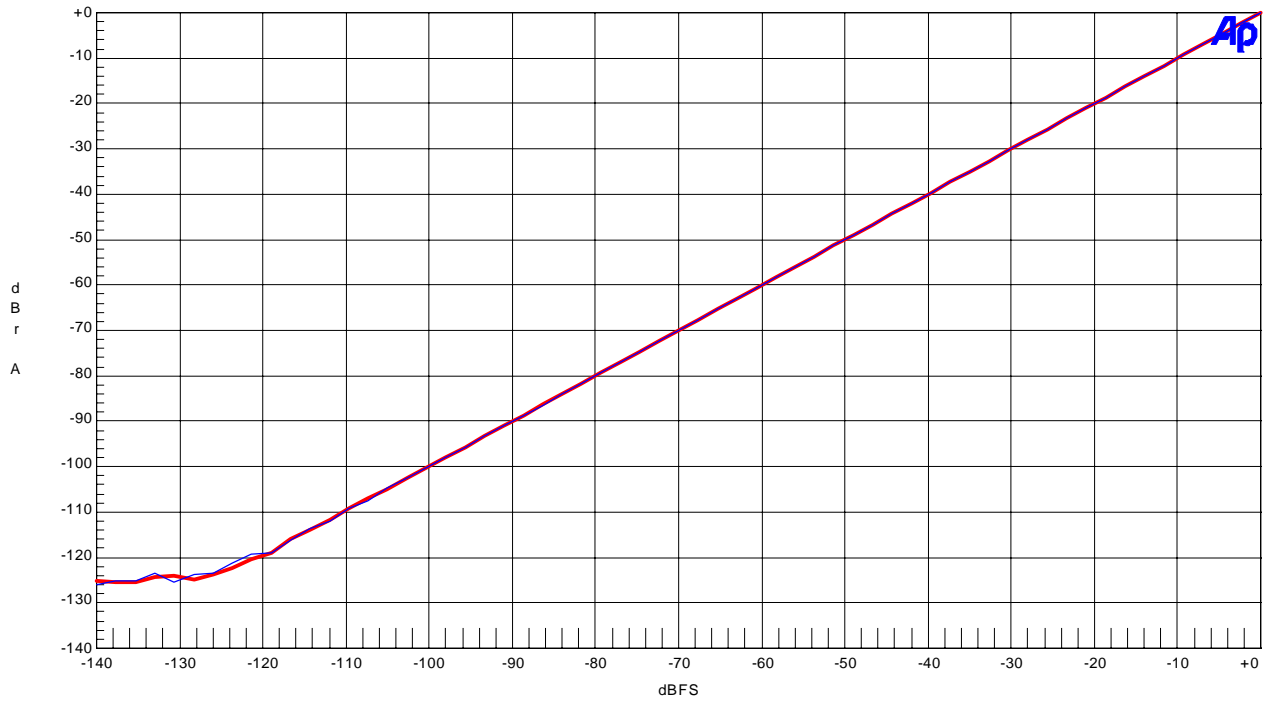

Figure 7. Linearity (fin=1kHz)
- Figure 7. Linearity (fin=1kHz)